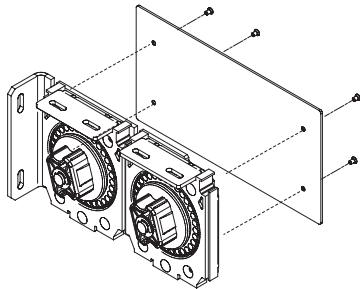

Figure 1
- ① Attach Bracket Covers to the Dual FlexShade Bracket using included hardware (see Fig. 1).